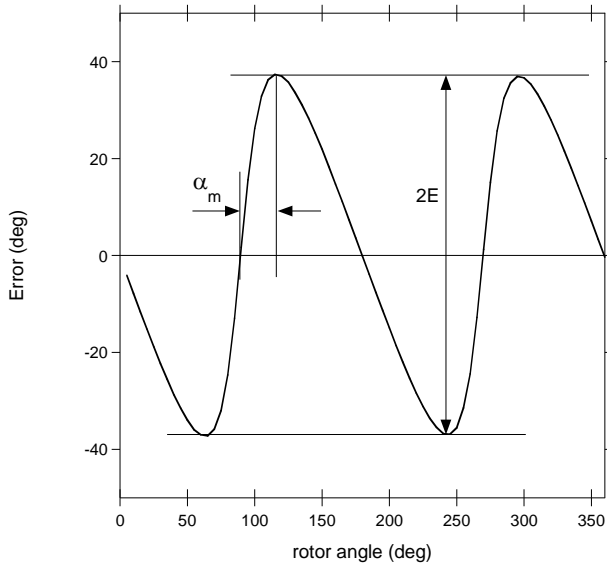

Figure 7: Error Curve in Side-Shaft Configuration with BCT = 0
It is possible to deduce the k ratio from the error curve obtained with the default BCT setting (BCT = 0). For this purpose, rotate the magnet over one revolution, record the MP6570 angle sensor output, plot the error curve (i.e.: the sensor output minus the real mechanical position vs. the real mechanical position), and extract two parameters: the maximum error (E) and the position of this maximum with respect to a zero crossing a_m (see Figure 7).